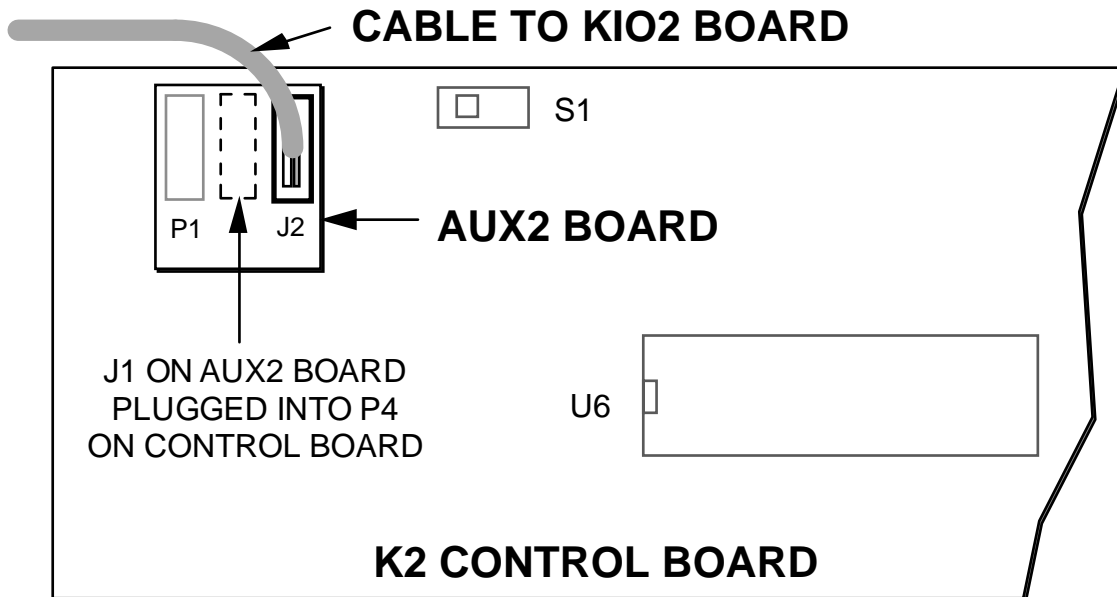

Figure 6
- Plug the AUX2 board into the K2 Control board at P4 (the Aux I/O connector) as shown in Figure 6. When the AUX2 board is correctly installed, it will be about 0.1" (2.5 mm) below the top edge of the control board. **Do not proceed until the AUX2 board is correctly installed, with all 10 pins mated.**
Plug the AUX2 board assembly into the K2 Control board. Make sure the AUX2 board is oriented as shown in Figure 6.